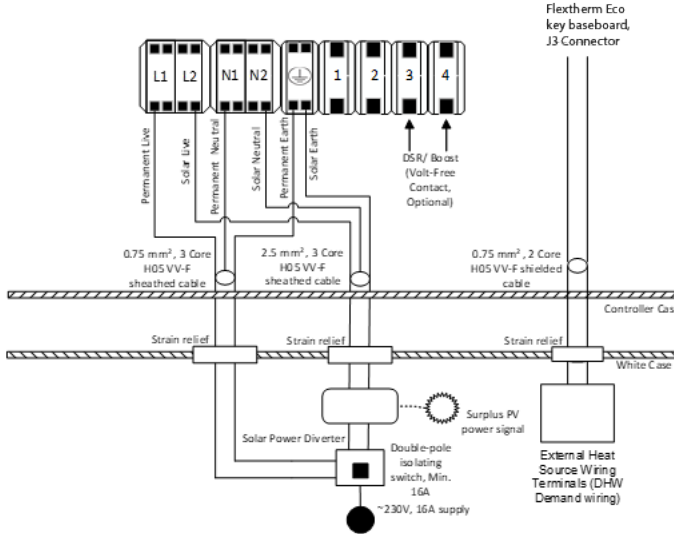

Figure 12 - Flextherm Eco G2 D Heat Battery wiring with solar power diversion
- With Solar Power Diversion follow (Section 6.4.2, Figure 12).
Potential dual-supply – Always isolate both supplies to the Heat Battery controller before working on the appliance. Ensure that Links 1 & 2 are removed (see Figure 12) and that the power diversion controller output is modulating AC. Modulating DC power diversion controllers are NOT compatible with the Heat Battery and their use poses a fire risk.